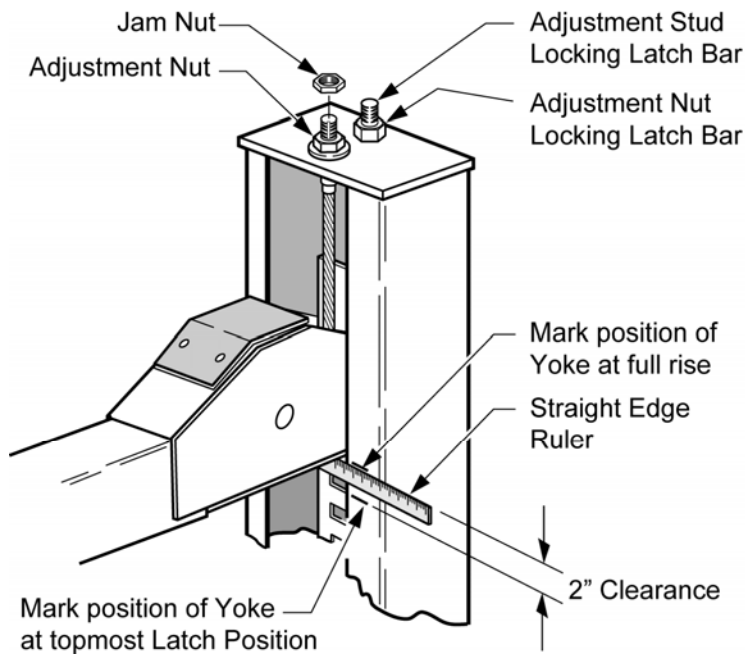

Fig. 10
- e. Starting with the right front column, use a straight edge to mark the position of the yoke bottom on the column, Fig. 10.
- f. Raise lift to full height again. Mark second position, Fig. 10. If gap between two marks is less than 2", adjust locking latch bar to reach clearance of 2". Repeat for the other three columns.